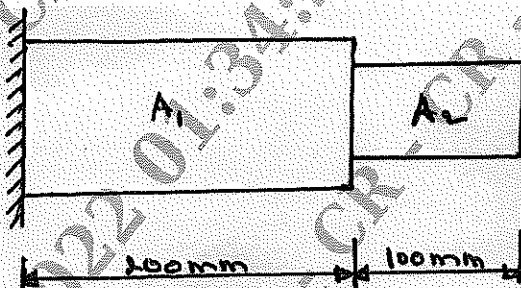

Fig.Q10(b)
b. Evaluate eigen vectors and eigen values for the stepped bar shown in Fig.Q10(b). Take $E = 200 \text{ GPa}$ and specific weight 7850 kg/m^3 . Draw mode shapes. Take $A_1 = 400 \text{ mm}^2$ and $A_2 = 200 \text{ mm}^2$.